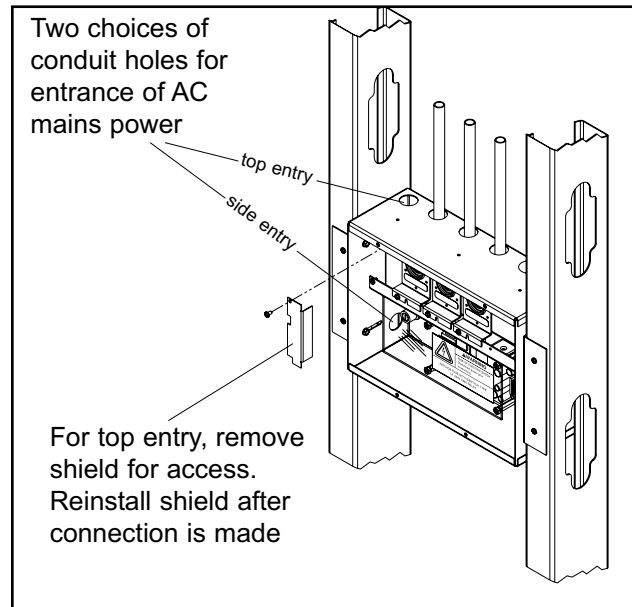

Figure 6: Back Box Mounting
2. Remove cardboard dust cover and insert alarm panel back box into wall opening. Secure with fasteners suitable for vertical supports as shown in Figure 6.